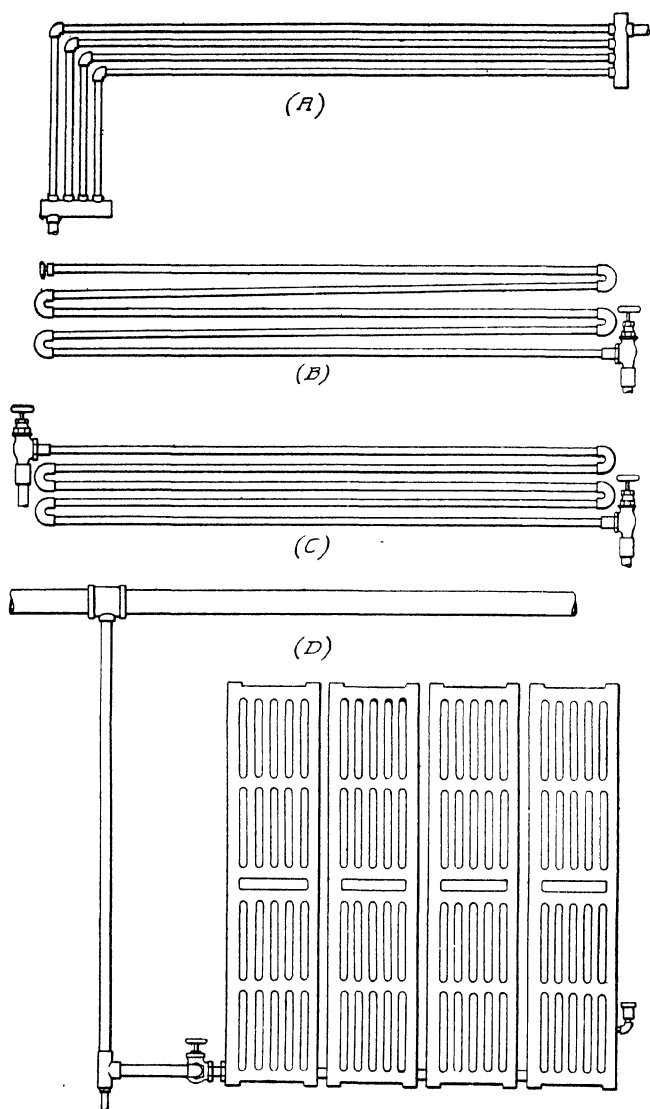

Fig. 29. Four Methods of Piping a Garage for Heating Purposes
**Heating.** The idea of heating the garage is not alone to keep the water in car radiators from freezing, as many garage men seem to think, but also to make it a comfortable place for workmen and car owners to come into or to work in, and to keep the cars at such a temperature as will allow quick and easy starting. Many kinds of heating plants are available, but steam or hot water are the best, for with either of these the heat can be used to warm the water for washing the cars, thus making washing easier and quicker. If a lighting plant is necessary, the exhaust from the engine can be utilized, whether it be steam or gas. The exhaust may not be sufficient of itself, but it can be used as far as it goes, effecting a considerable saving. When either steam or hot water is used for heating, the radiators are generally made up of pipes, or else a wall radiator is used. A specially thin form for this purpose may be had. The radiators can be put in one of three forms, viz, pipes to and from a header, as at *A* in Fig. 29; return bends, which may be either single, as seen at *B*, or double, as shown at *C*; and the wall radiator, shown at *D*.